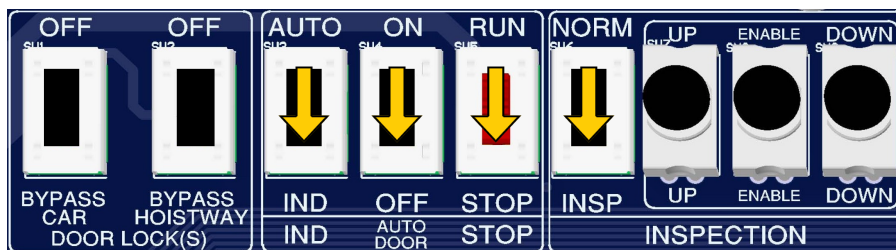

Figure 2: Main I/O control switches
1. Prepare the elevator by capturing the car and placing the Main I/O control switches in the positions that are shown in **Figure 2**.